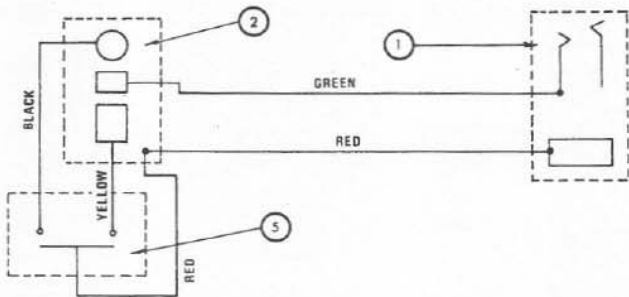

FIGURE 3 - Wiring Diagram
- Type: Three pole mutually shorting switch with positive detent (See Figure 3)